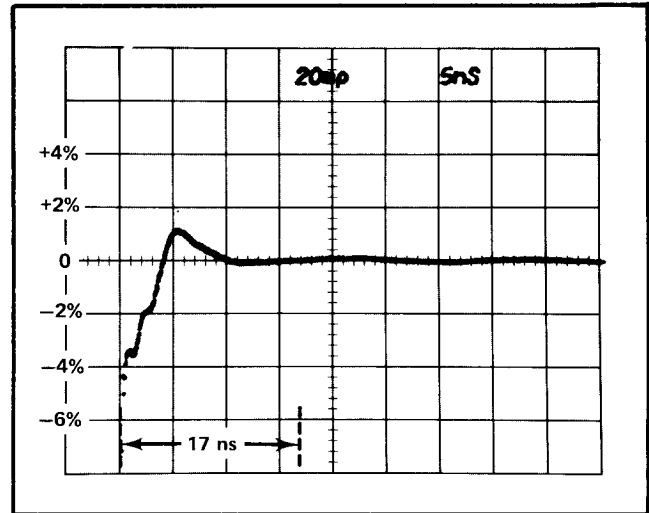

Fig. 5-9. Pulse aberrations of the S-5, S-54 and 7S12 system.
e. Set the  $m\rho$ /DIV switch at 20 and place the step near the left edge of the graticule. See Fig. 5-9 for this waveform.